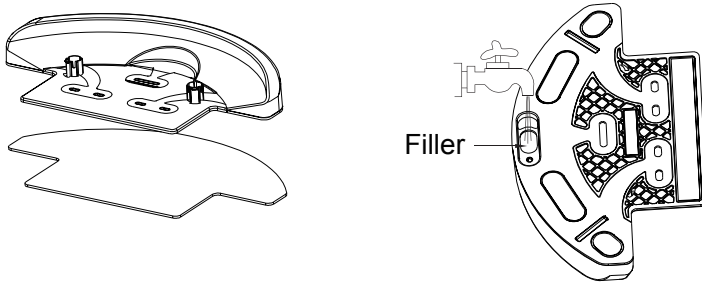

Fig.1
1. Open the sealing cap at the bottom of water tank, add the water to the 1/2 or 2/3 volume, close the sealing cap, and then lay the duster cloth at the bottom of water tank (as shown in Fig.1).